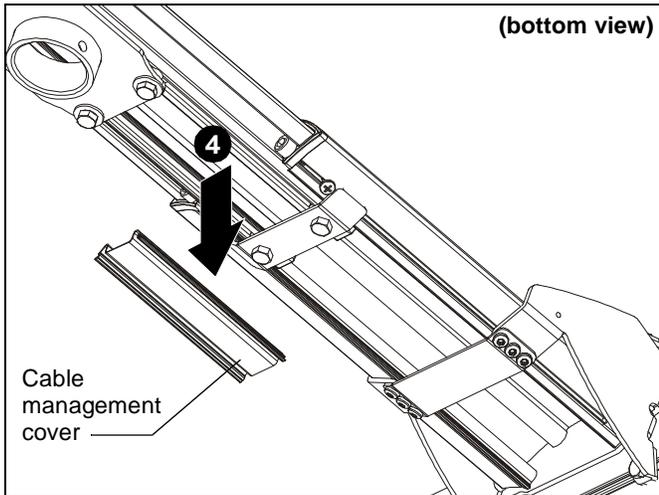

Figure 19
- Remove cable management cover (if necessary) from WMA2S arm. (See Figure 19)